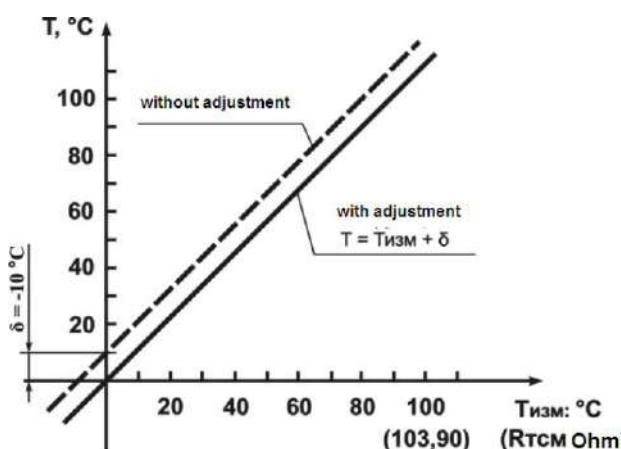

Figure 3.3
3.2.3.1 To provide for the error compensation  $\Delta R = (R_0 - R_{TCM})$  produced by the input wiring resistance RTC, each **measured temperature value (Тизм)** is added with a user specified value  $\delta$ . Figure 3.3 shows an example of a characteristics shift for Pt100 sensor.